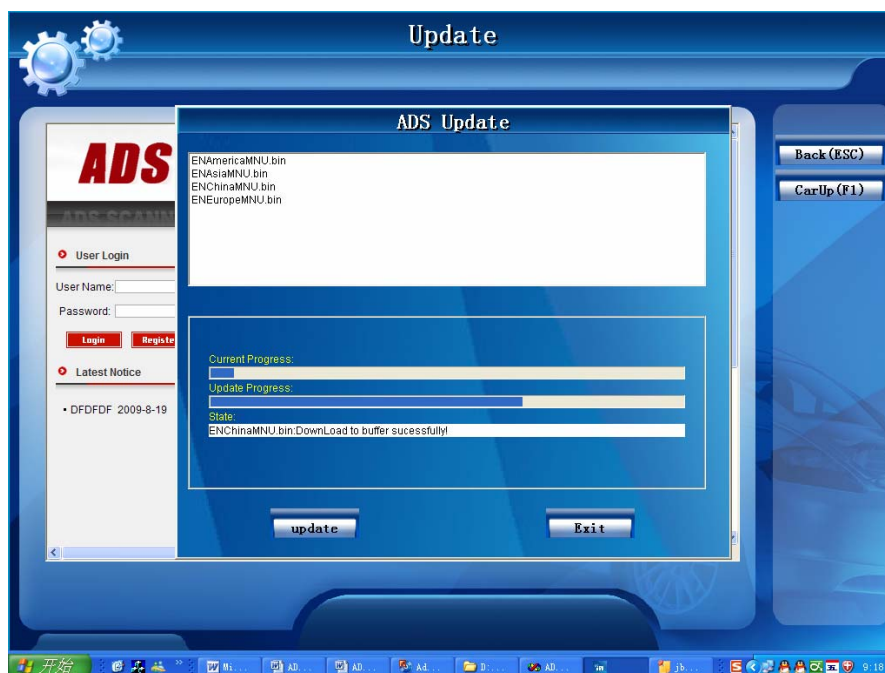

Figure-43
43. If your ADS-1 is not the latest, it will appear figure-43